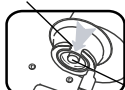

Fig. 2
1. Check that the control knob (8) is set to position ● by turning it clockwise and the cartridge lever (6) is set to **"UNLOCK"**.
2. Open the cartridge cover (2) and insert the cartridge, with the head to the front, so the notch points upwards and aligns in the value guide (fig. 2).